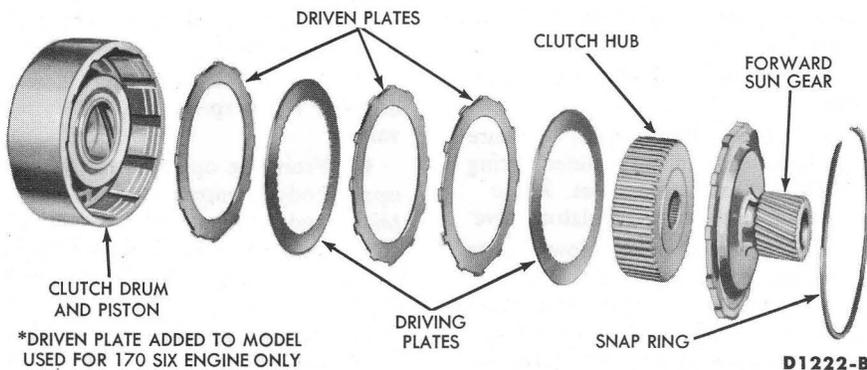

FIG. 10—Clutch Plate Pack Assembly
1. Remove the snap ring that retains the forward sun gear and flange in the clutch drum (Fig. 10). Lift the gear and flange out of the drum.
6. Inspect the drive plates for damage (Fig. 10). These plates should be flat. If there is any visible dish in them, they must be replaced. If the old plates are to be reused, they must **not** be cleaned in a vapor degreaser or cleaned with any sort of detergent solution. Wipe them clean with lint-free towels.